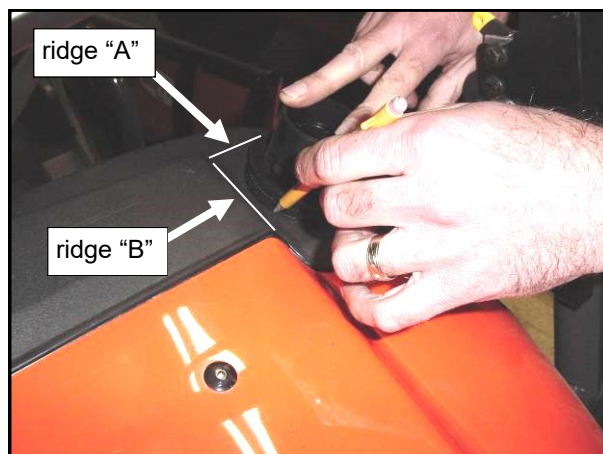
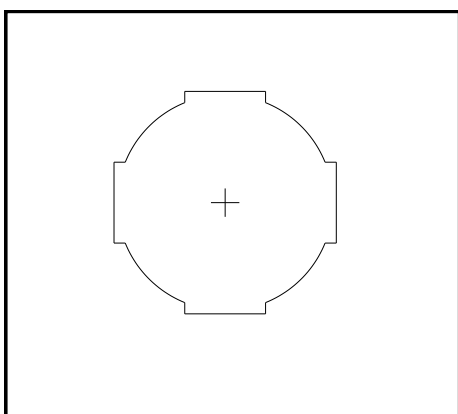
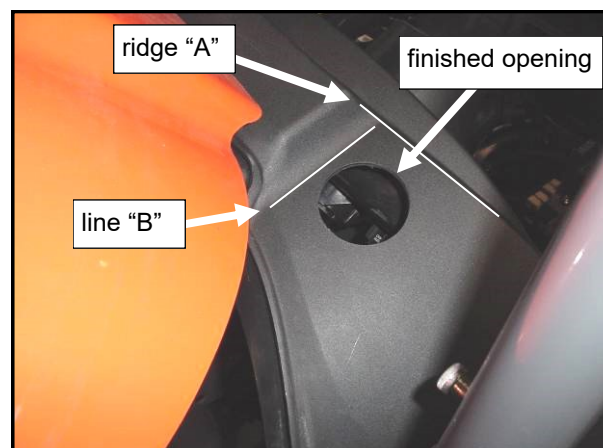

Fig. 4.1 (view from front center of vehicle)
Fig. 4.1.3 (file four places if necessary)
Fig. 4.1.2 (view from front of driver's side)
4.1 Per figures 4.1, 4.1.1, and 4.1.2, drill a 2-1/16" hole through the driver's side dash as shown. Per fig. 4.1, place the round vent upside down on the **flattest** part of the cowl and with a pencil, trace around the diameter leaving a guide line for drilling. Center of hole to be 2" forward from ridge "A" and 1-1/2" towards the driver's side of line "B" (see fig. 4.1.2 for clarification of line "B"). Note: white lines drawn on the photo represent where to measure from. Caution: before drilling, check underneath plastic cowl to be sure there is clearance for the hole saw. Note: if only a 2" hole saw is available, use a standard hand file to remove more material in four places for the vent retaining tabs (see fig. 4.1.3). Test fit the round vent frequently before removing too much material. Ref.: approximately 1/32" per side.